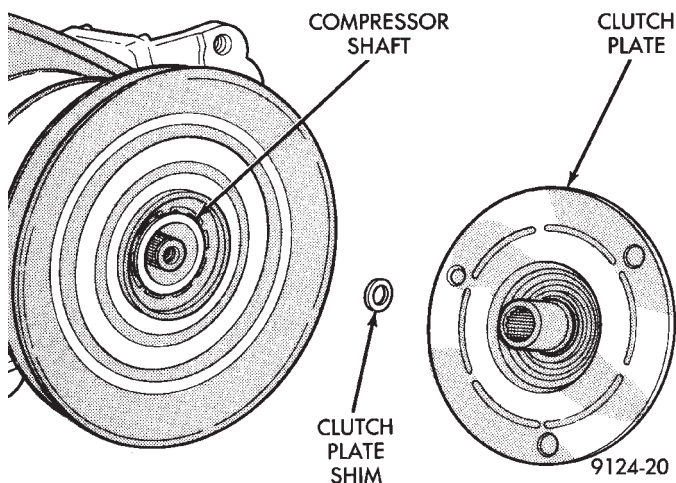

Fig. 6 Clutch Plate and Shim(s)
(2) Tap the clutch plate with a plastic hammer and remove clutch plate and shim (Fig. 6).